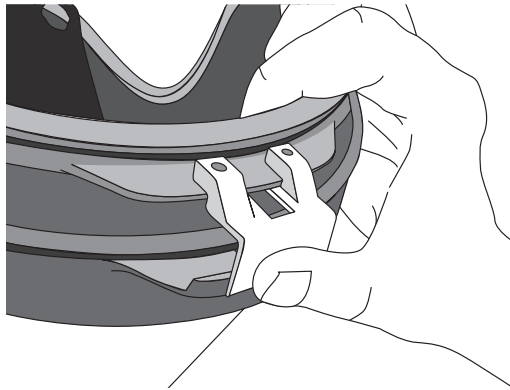

Fig. 2
4. Place the hole template on the tab of the headgear's lower jaw. Ensure that it is positioned correctly and held securely as shown in Fig. 2 (top side of template). Optional: A clamp can be used to help secure the template in place.